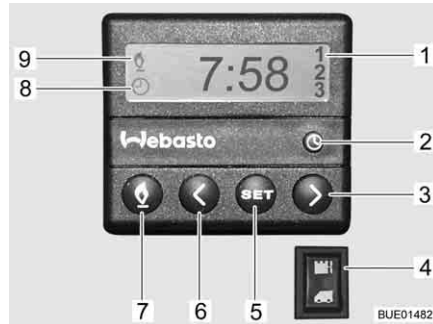

Fig. 195 Operating unit for independent vehicle heater
- Press the button (Fig. 195,7). The heating mode is displayed by the symbol (Fig. 195,9). The fan will only be switched on when there is a coolant temperature of 30 °C.
- Press the button (Fig. 195,7). The symbol (Fig. 195,9) goes off.
- Press the lower part of the switch (Fig. 195,4). Engine is preheated. The fan is switched on immediately.
- Press the upper part of the switch (Fig. 195,4). Engine stays cold.
- Press the button (Fig. 195,2). The time setting is displayed by the symbol (Fig. 195,8).
- Set the time with the buttons (Fig. 195,3 and 6).
- Press the button (Fig. 195,5).
- Set the switching on time within ten seconds, with the buttons (Fig. 195,3 and 6).
- Keep pressing the button (Fig. 195,5) until the selected programme number (Fig. 195,1) appears in the display.